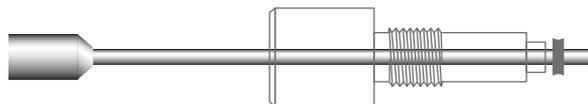

Fig. 3—Diagram of Side Fitting Electrode Cap with electrode and gasket in place.
3. Insert the electrode through the opening in the Side Fitting Electrode Cap. Once inserted, install a gasket on the electrode sleeve, about 5mm from the end (Fig. 3).